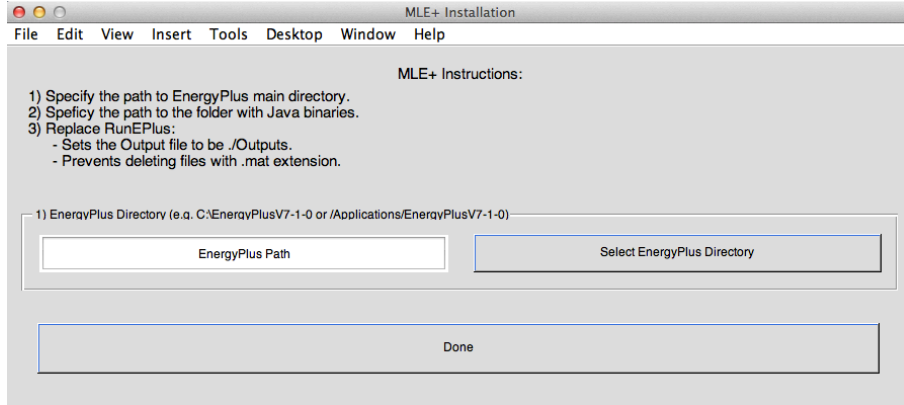

Figure 3: MAC OS MLE+ Installation Screen.
1. This will install the GUI Layout Toolbox and add the necessary paths to the Matlab environment automatically. After that, the installation screen in Figure 3 will appear. Here you need to specify the paths to EnergyPlus main Directory.